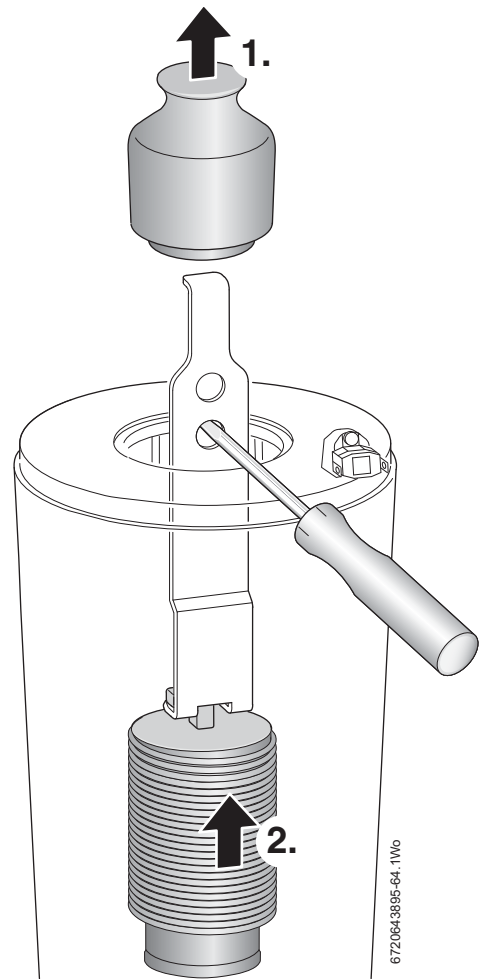

Fig. 62 Baffle removal
1. Refer to figure 62 and remove top baffle.
**i** If the lower baffle is stuck, it may be necessary to use the "Baffle removal tool" from the heat exchanger cleaning kit - 7 716 192 312, as shown in figure 62.
**!** **NOTICE:** Heat exchanger baffles. The baffles (1) and (2) must be refitted into the heat exchanger in the order shown in figure 62. Failure to do so may result in damage to the appliance.